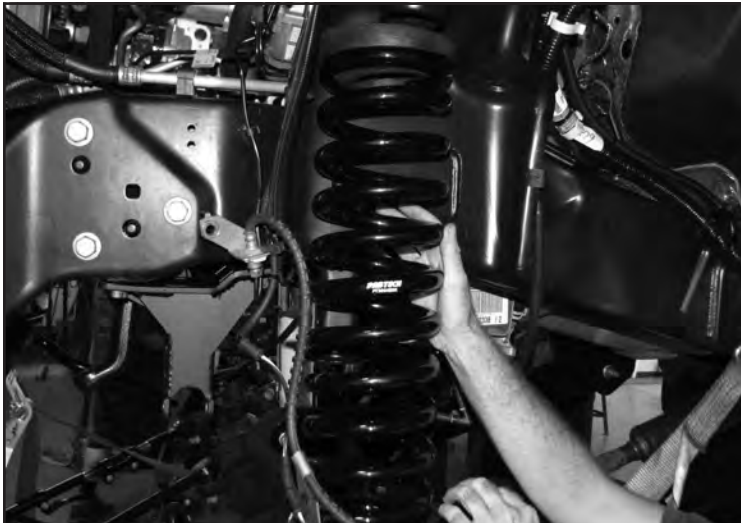

FIGURE 15 - STEP 20
20. Install FT30648 (Coil Spring) using the factory upper isolator. **SEE FIGURE 15**